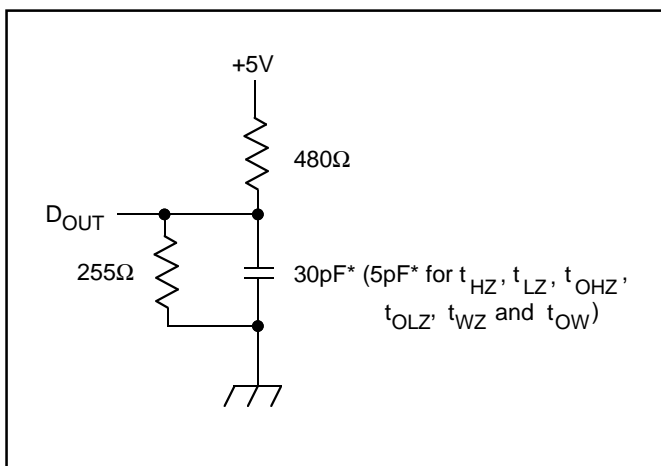

Figure 1. Output Load
- Transition is measured ± 200 mV from steady state voltage prior to change, with loading as specified in Figure 1. This parameter is sampled and not 100% tested.
Output Load	See Figures 1 and 2